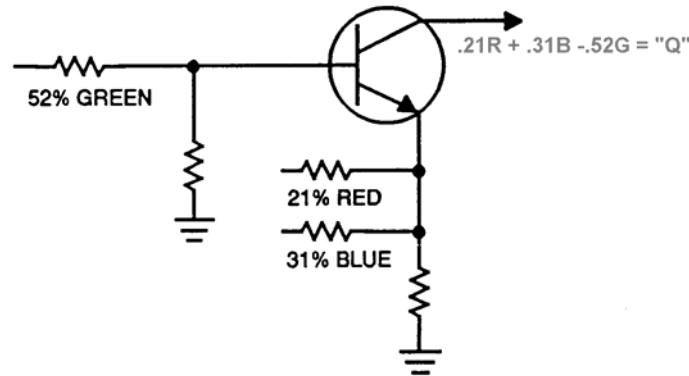

Figure S-27. Q Matrix
e. The Q Signal. Applying the green signal to the base and the red and blue to the emitter of the Q amplifier forms the Q signal. Here, the green is 180 degrees out of phase with the red and blue. The resistor network sets the percentages at 21 percent red, 52 percent green, and 31 percent blue. The resultant output of the transistor is $21\% R + 31\% B - 52\% G$ (see Figure S-27).